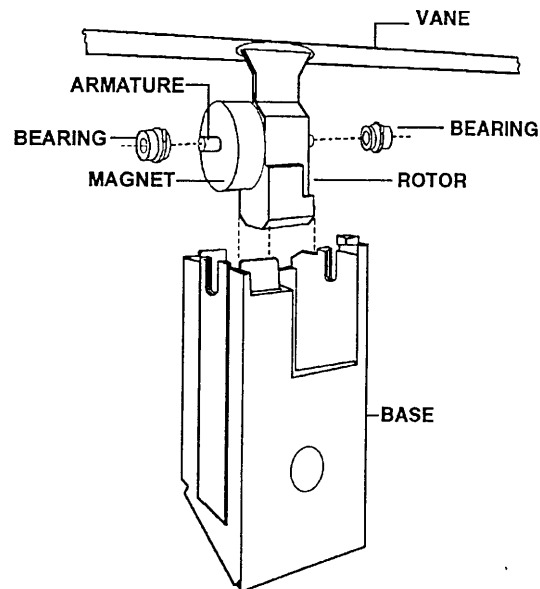

Figure 40
- c.** Manually move the individual segments back and forth several times to confirm that no foreign matter is “jammed” into the digit bearings. Wipe the digit bearing and magnet spotless using a clean, dry cloth, see Fig. 40 below.
- d.** Manually move the individual segments back and forth several times to confirm that no foreign matter is “jammed” into the digit bearings. Wipe the digit bearing and magnet spotless using a clean, dry cloth, see Fig. 40 on the previous page.
Note: Placing a thumb and index finger of your other hand at the end of the shaft next to the bearings will prevent the bearings from falling off, see Fig. 40 on the previous page.